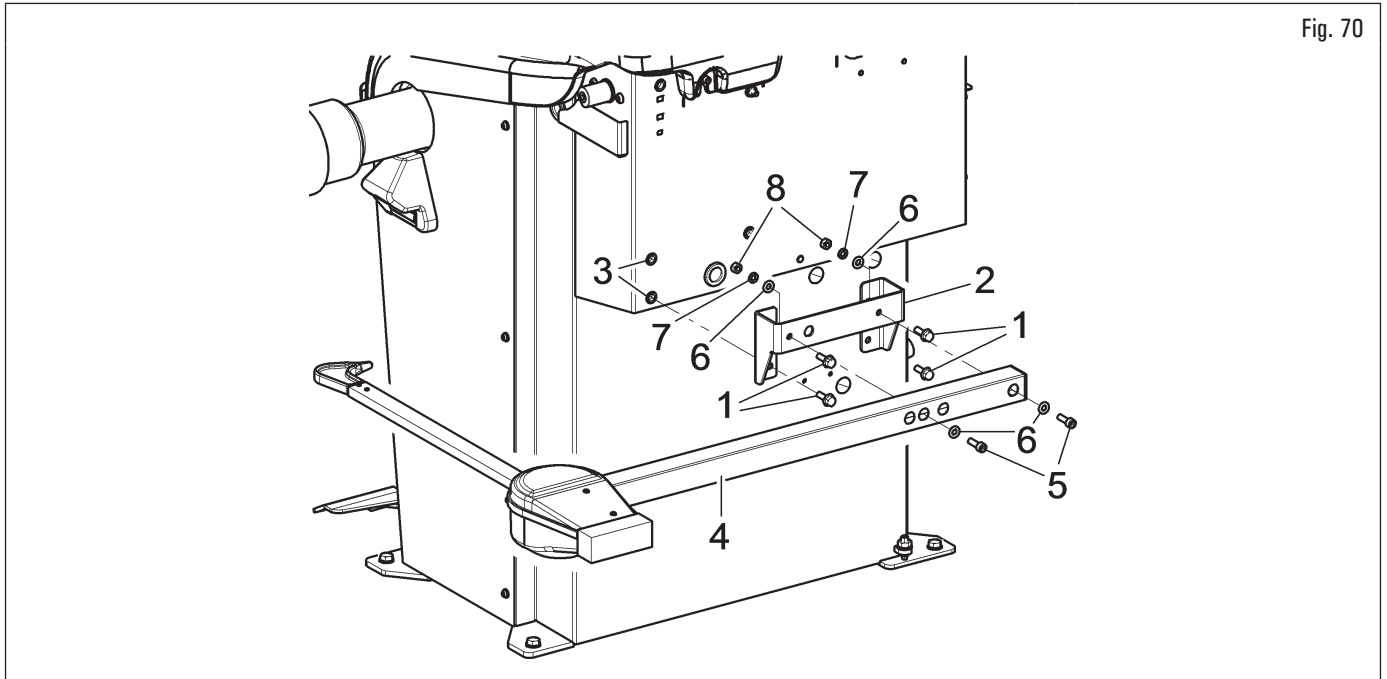
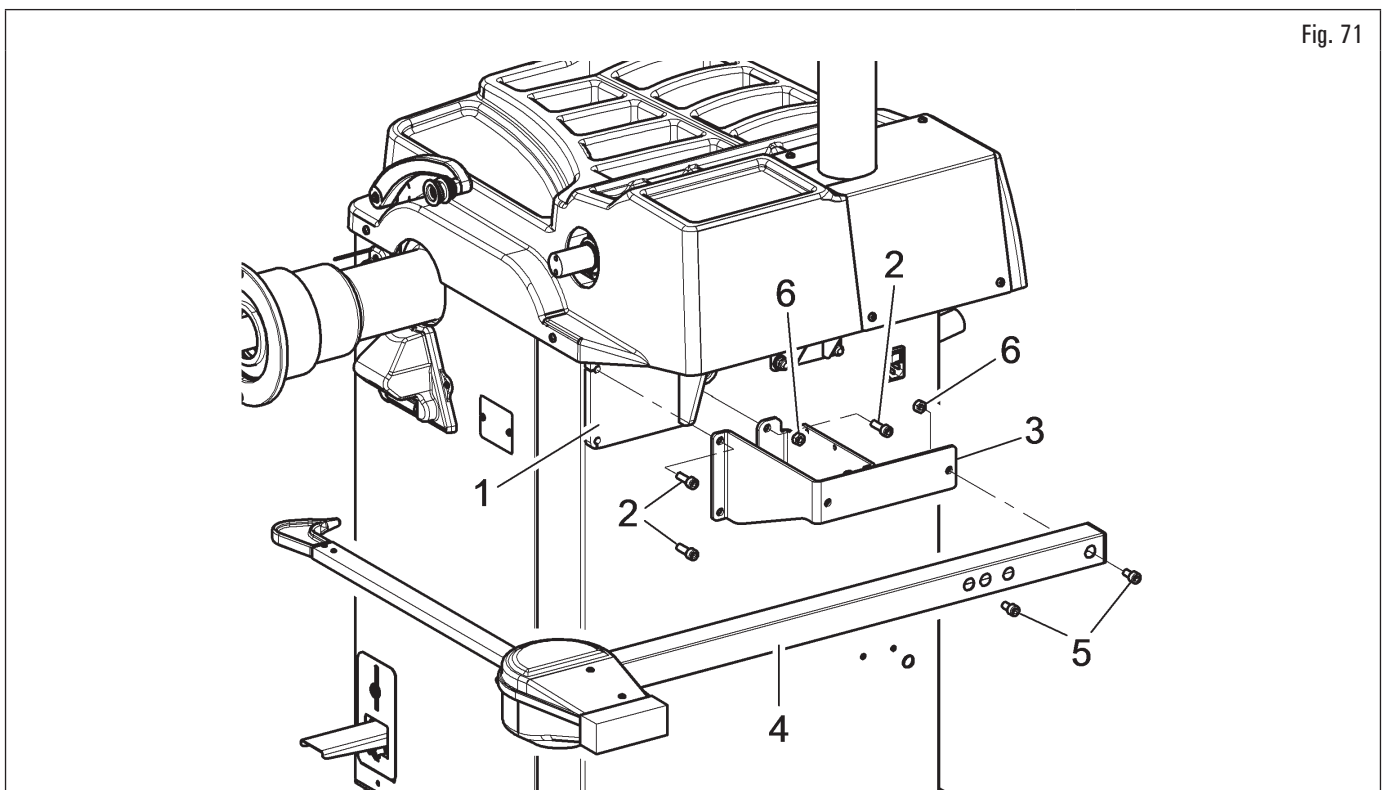
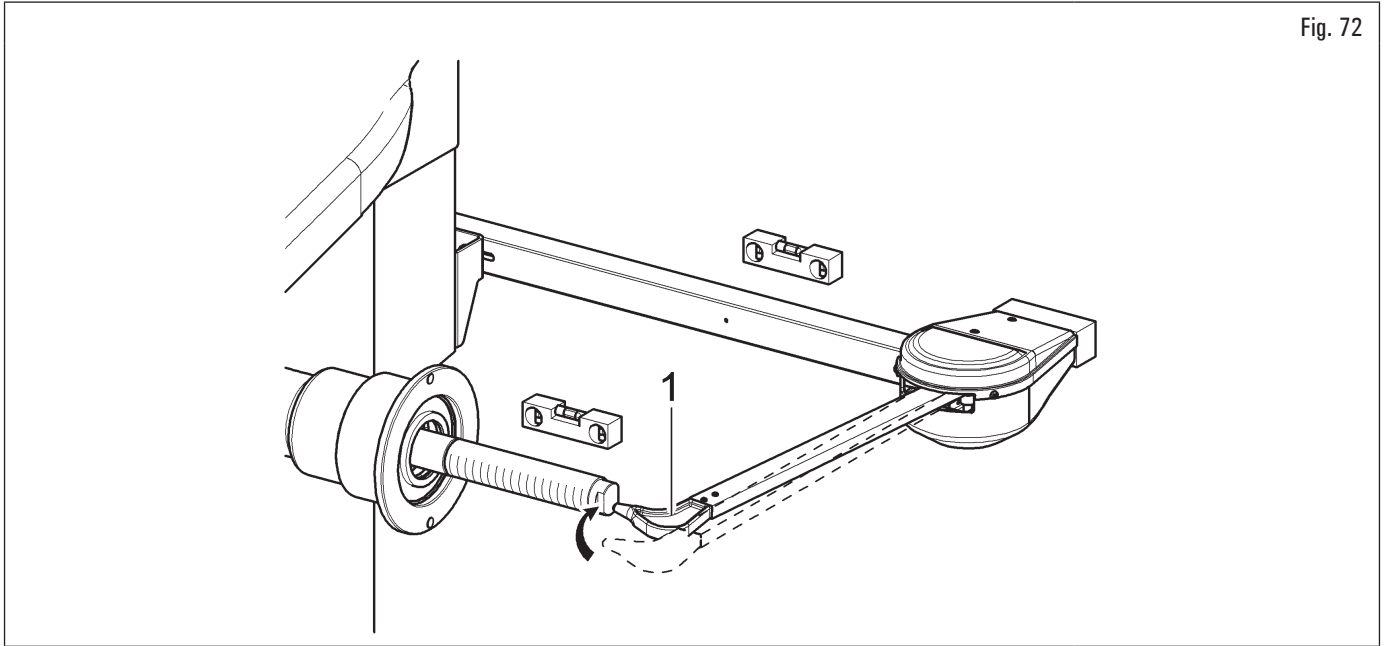

Fig. 70
Fig. 71
Fig. 72
1. Screw the 4 bolts (Fig. 70 ref. 1) to the gauge bracket (Fig. 70 ref. 2) and threaded rivets (Fig. 70 ref. 3) on the equipment frame. Secure the gauge arm (Fig. 70 ref. 4) to the bracket (Fig. 70 ref. 2) using the 2 appropriate bolts (Fig. 70 ref. 5) and the washers (Fig. 70 ref. 6). Secure these bolts with the washers (Fig. 70 ref. 6), the elastic washers (Fig. 70 ref. 7) and the nuts (Fig. 70 ref. 8) so that the shaft and the gauge arm are levelled out (see Fig. 72);
1. Remove the fastening bolts of the equalizer support (Fig. 71 ref. 1), being very careful about holding the same support. Screw the 3 bolts (Fig. 71 ref. 2) to the gauge bracket (Fig. 71 ref. 3) and to the equalizer support (Fig. 71 ref. 1). Secure the gauge arm (Fig. 71 ref. 4) to the bracket (Fig. 71 ref. 3) using the 2 appropriate bolts (Fig. 71 ref. 5). Lock these bolts with the nuts (Fig. 71 ref. 6) so that the chuck and the gauge arm are levelled out (see Fig. 72);
2. at the end of the assembly, manually make sure the gauge tip (Fig. 72 ref. 1) is able to touch the chuck head;